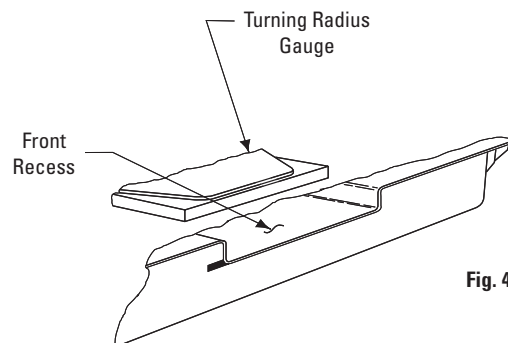

Fig. 42
- C. Place the turning radius gauges in the recesses of both runways with the pointer and lock pin to the outside of lift, Fig. 42. Position each gauge against the rear guide bars. Then position the front guide bar just against the front edge of the turning radius gauge. Repeat on other runway. (A tolerance of 1/16", end-to-end, is acceptable). Tighten the mounting bolts securely. The turning radius gauges are now square and in proper alignment with each other.